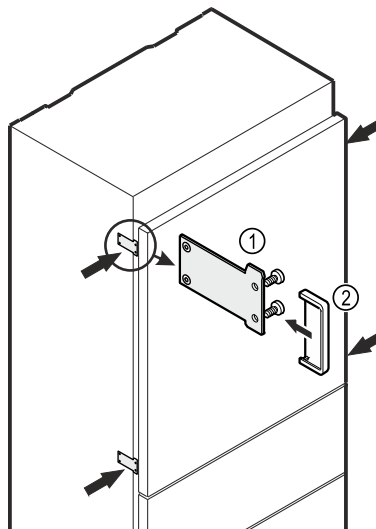

Fig. 18
- Secure the appliance to the cabinet unit using the mounting tabs Fig. 18 (1) and two 4x16 screws each.
- Attach the cover Fig. 18 (2).